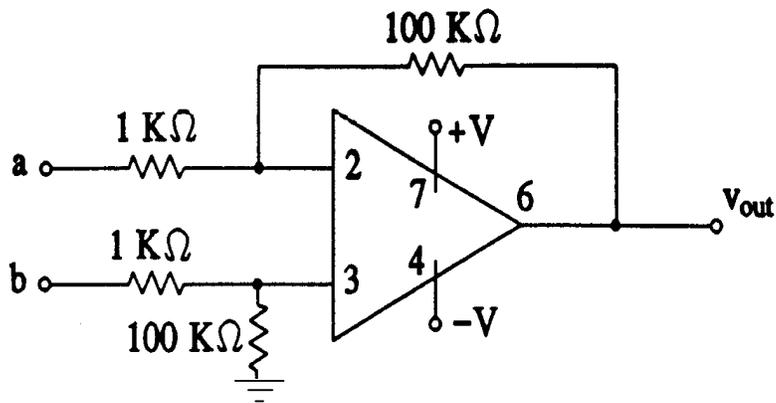

Fig. 6
- 2.6 Construct the amplifier circuit as shown in Fig.6. Verify the operation of the circuit.